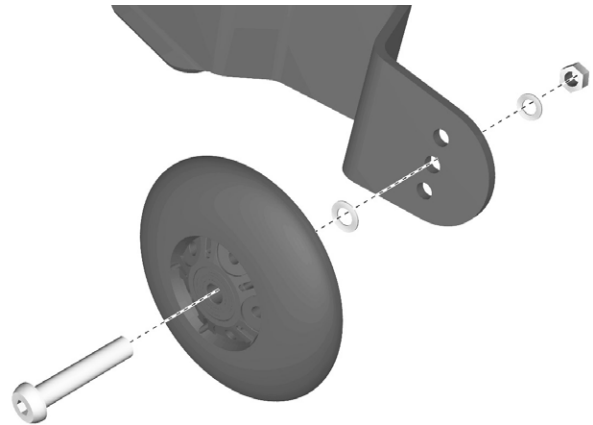

Figure 46. Support wheel.
2. Remove the screw. See fig. 46.
2. Fit the wheel with the screw, washer and nut in the desired position. See fig. 46.